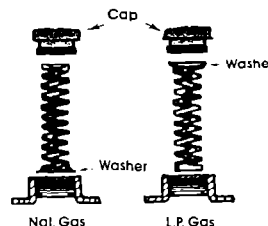

Figure 5
4. Remove the cap with screwdriver slot. Carefully remove the spring; then the washer. Place the spring on the regulator first; then the washer. Replace the cap over the washer and spring. Tighten cap. See Figure 5.